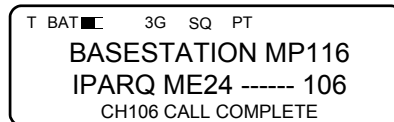

Figure 3-59. CTI Linked Screen
- When the 3G radio mode circuit setup is successful, a tone is heard in the handsets of the outstation and the basestation radios, and the KDU displays the screen shown in Figure 3-59.